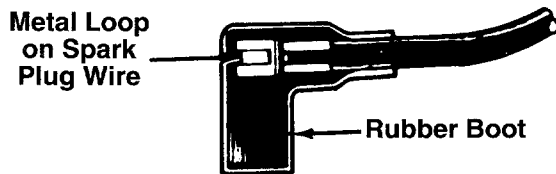

FIGURE 19.
2. Attach spark plug wire to spark plug. Make certain the metal loop on the end of the spark plug wire (inside the rubber boot) is fastened securely over the metal tip on the spark plug. See figure 19.